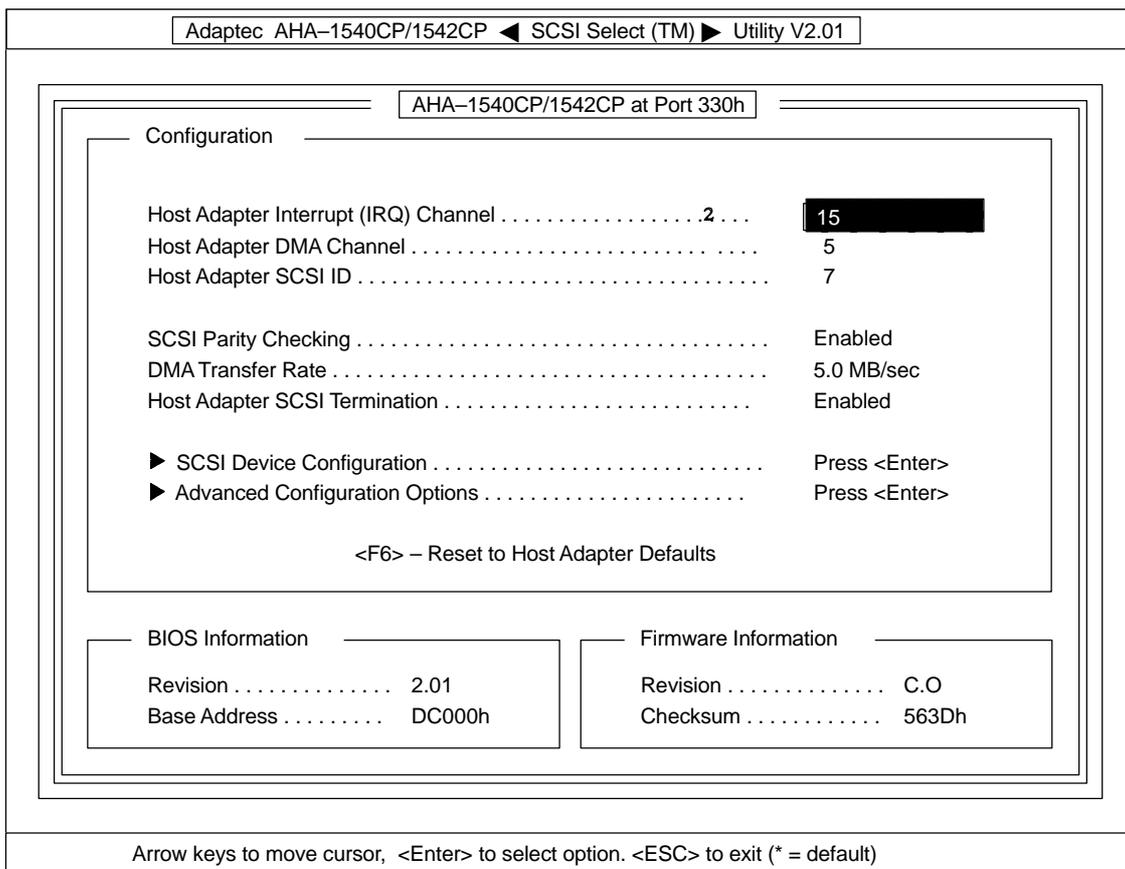

Fig. 4.17 SCSI Select menu 3
- Perform the following selections in the SCSI Select menu 3 (see Fig. 4.17).